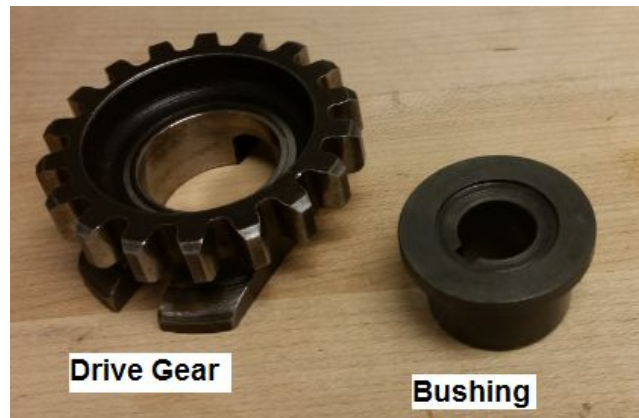

Figure 7: Installation of MTH Alignment Pin
If the removed magneto was located between the propeller and the accessory case, use timing hole CW. If the removed magneto was located between the accessory case and the firewall, use timing hole CC. See Figure 7.
- If the removed magneto was located between the propeller and the accessory case, use timing hole CW. If the removed magneto was located between the accessory case and the firewall, use timing hole CC. See Figure 7.